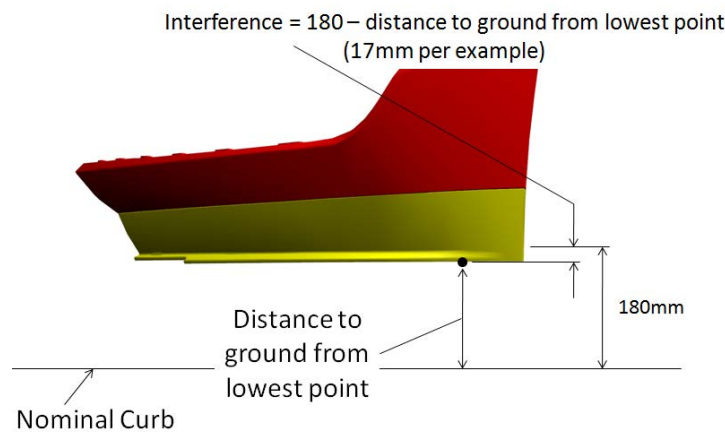

Figure 2: Interference Calculation for Air Deflectors Less Than 180 mm to Ground
4.1.3.2.1 Parking Block/Curb Interference Calculation. Subtract the dimension determined in 4.1.3.1 from 180 mm to calculate the required amount of curb interference to the bottom of the air deflector. 180 mm represents the height of a standard parking block/curb. Document the calculated interference in Data Sheet A2, Appendix A. See the following and Figure 2 for an example: